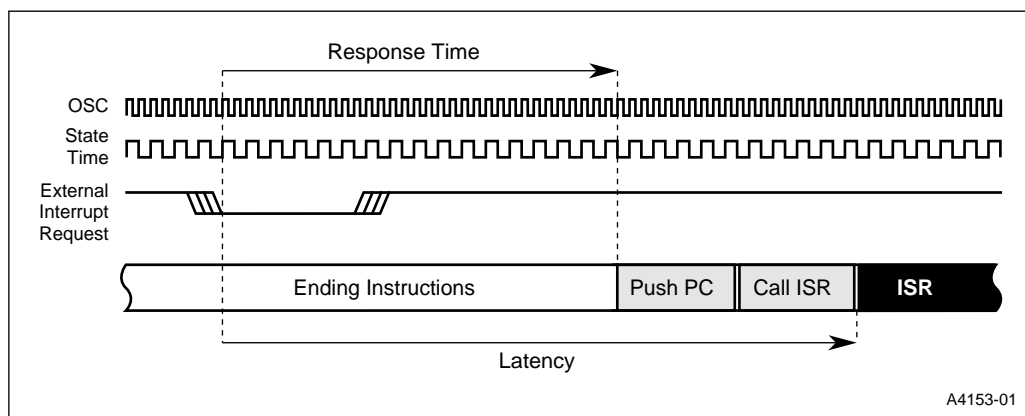

Figure 6-10. The Interrupt Process
Interrupt processing is a dynamic operation that begins when a source requests an interrupt and lasts until the execution of the first instruction in the interrupt service routine (see Figure 6-10). *Response time* is the amount of time between the interrupt request and the resulting break in the current instruction stream. *Latency* is the amount of time between the interrupt request and the execution of the first instruction in the interrupt service routine. These periods are dynamic due to the presence of both fixed-time sequences and several variable conditions. These conditions contribute to total elapsed time.
All interrupts are sampled or polled every four state times (see Figure 6-10). Two of eight interrupts are latched and polled per state time within any given four-state time window. One additional state time is required for a context switch request. For code branches to jump locations in the current 64-Kbyte memory region (compatible with MCS 51 microcontrollers), the context switch time is 11 states. Therefore, the minimum fixed poll and request time is 16 states (4 poll states + 1 request state + 11 states for the context switch = 16 state times).
Response time is defined as the start of a dynamic time period when a source requests an interrupt and lasts until a break in the current instruction execution stream occurs (see Figure 6-10). Response time (and therefore latency) is affected by two primary factors: the incidence of the request relative to the four-state-time sample window and the completion time of instructions in the response period (i.e., shorter instructions complete earlier than longer instructions).
When an interrupt vector cycle is initiated, the CPU breaks the instruction stream sequence, resolves all instruction pipeline decisions, and pushes multiple program counter (PC) bytes onto the stack. The CPU then reloads the PC with a start address for the appropriate ISR. The number of bytes pushed to the stack depends upon the INTR bit in the UCONFIG1 (Figure 4-3) configuration byte. The complete sample, poll, request and context switch vector sequence is illustrated in the interrupt latency timing diagram (see Figure 6-10).